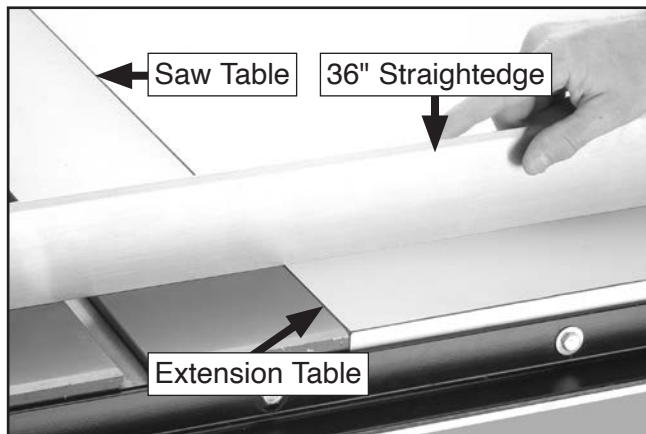

Figure 14. Verifying extension table flushness.
20. Use a 36" straightedge to verify extension table is flush with saw table and is even along its entire length (see **Figure 14**), then fully tighten all fasteners. Rotate adjustable feet to make small adjustments to table height.